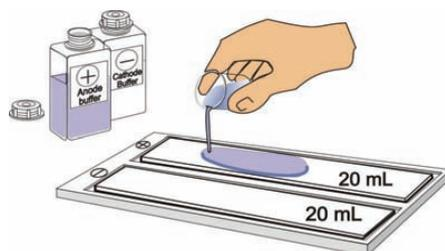

Fig. 3.1
2. Lay two electrode wicks into the compartments of the PaperPool. Apply 20 mL of the respective electrode buffer to each wick and allow to soak for at least 10 minutes (Fig 3.1).